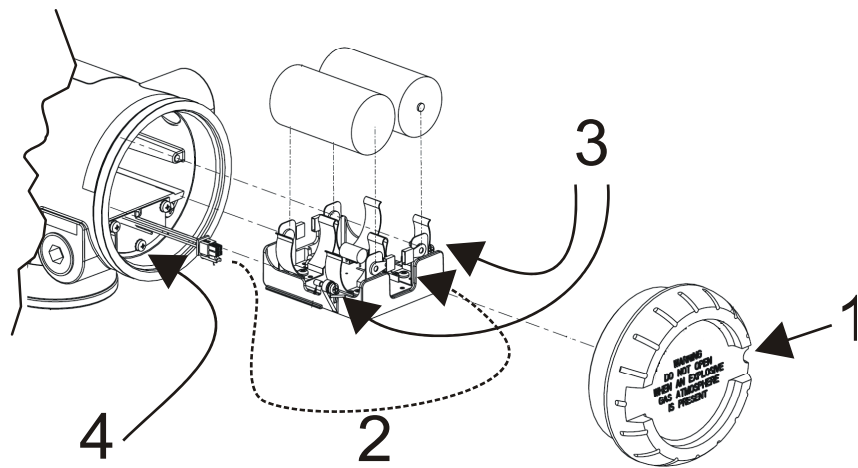

Figure 11 Terminal board replacement
2	Loosen the M3 locking set screw on the battery end-cap (opposite end from display). See item 1 in Figure 11. Unscrew and remove the end cap.
3	Using thumb and forefinger, squeeze the battery connector at top and bottom to disengage the locking mechanism, then pull to disconnect. See item 2 in Figure 11.
4	Loosen the two battery holder retaining screws (closest to the batteries). See item 3 in Figure 11. The screws are captive.
| 7 | Remove and save the 3 screws that attach the terminal board to the housing. Take care because these screws are not captive. See item 4 in Figure 11. |